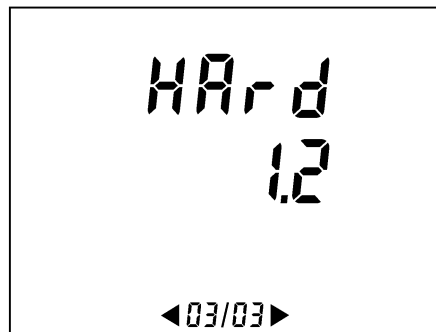

Figure 62: Material version number (page 3/3)
- The appliance hardware version (*Hard* = *Hardware version*) (Figure 62).